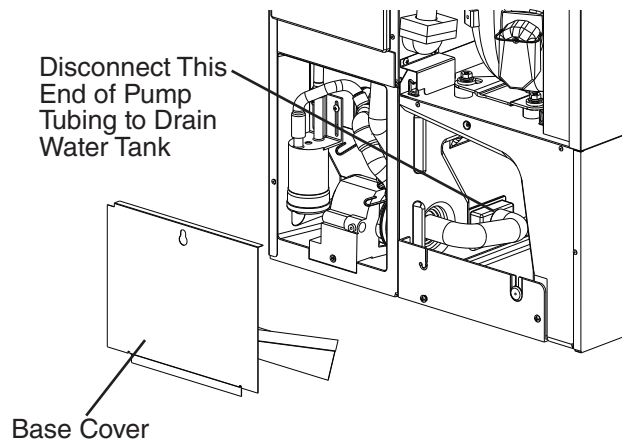

Fig. 5
- 7) Remove the base cover, then disconnect one end of the pump tubing to drain the water tank. See Fig. 5.
- 5) Remove the base cover, then disconnect one end of the pump tubing to drain the water tank. See Fig. 5. After the water tank has drained, reconnect the pump tubing.